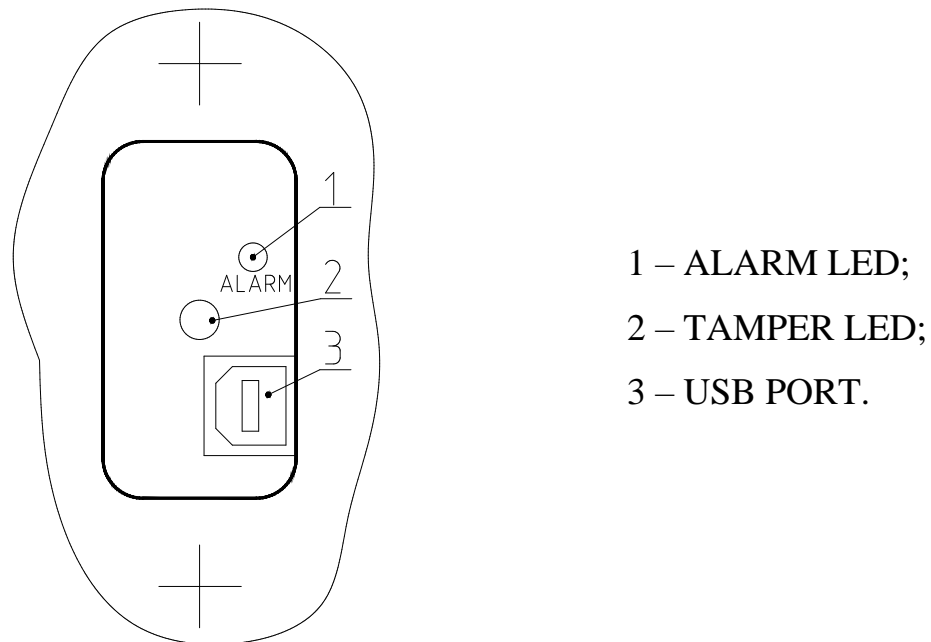

Figure 1.3 – Configuration elements of ZEBRA-24.30C
1.4.3.1 Figure 1.3 shows the configuration elements located under the lid.